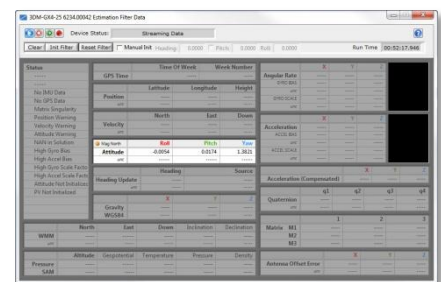

Figure 4: Estimation Filter Data window
- Click View. Click EF Data Monitor and the Estimation Filter Data window appears as shown in Figure 4.